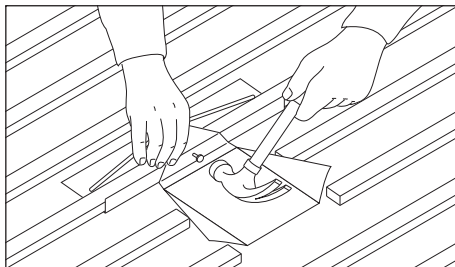

Fig. 2 – Secure soaker tray
- 5 Secure soaker tray by folding cut underlay over batten and nail into bottom edge of tiling batten above (Fig. 2).